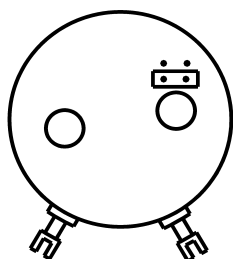

Figure 7: 100°-200°
- Jumper at bottom for measuring range between 100° and 200° (see Figure 7)